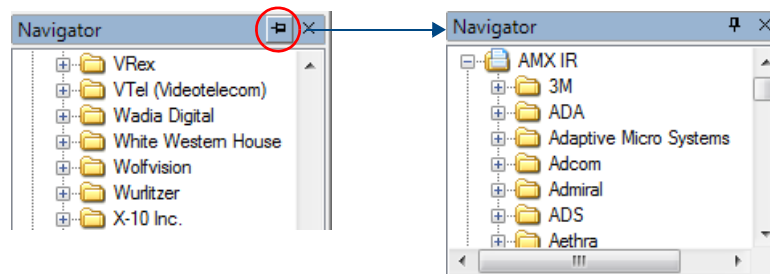

FIG. 3 Window tab - Thumb Tack button
- To return the window back from the tab form click on the icon with the tack turned upon its side. Clicking on the tab, in collapsed form, will activate the window until another part of the application receives focus (FIG. 3).